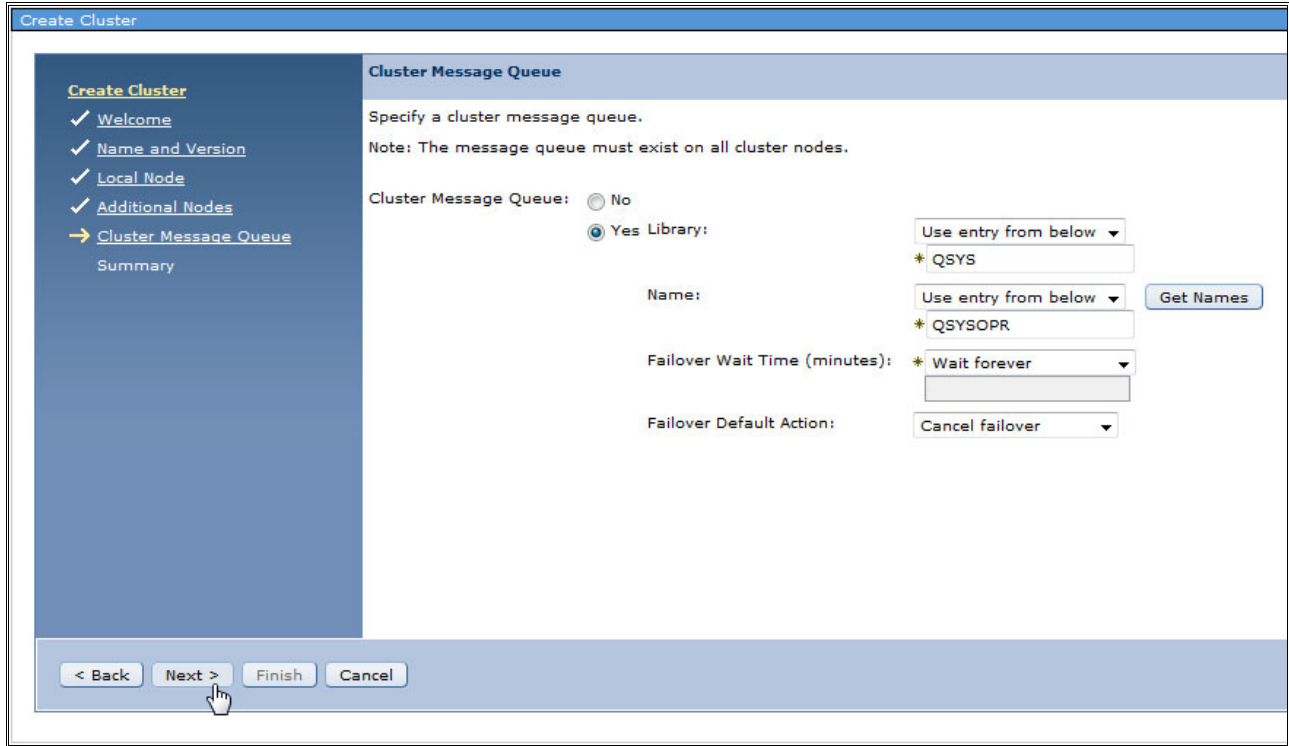

Figure 4-12 Cluster creation, cluster message queue
9. In the Create Cluster Message Queue panel, you must decide whether you want to use a cluster message queue, as shown in Figure 4-12. When a message queue is specified, a message is sent to that message queue on the secondary system when there is a failure on the primary system. You can also specify how long that message waits for an answer and what the standard action is after that time passes. Click **Next**.